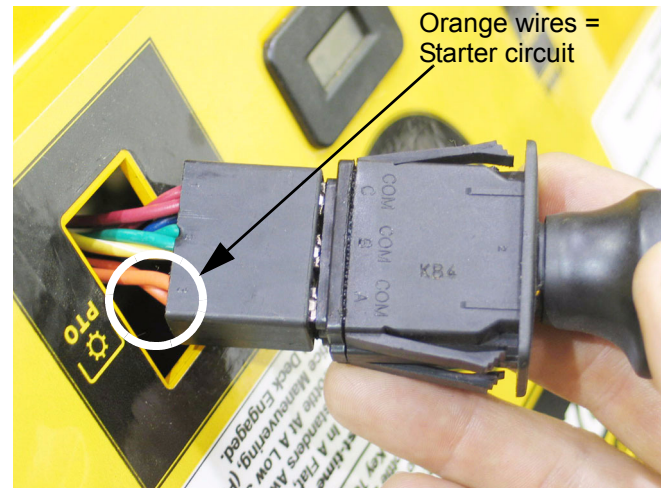

Figure 29.4
- 29.4. The orange wire w/white trace leads to the common spade on the A set of contacts (A-COM) within the PTO switch. See Figure 29.4.